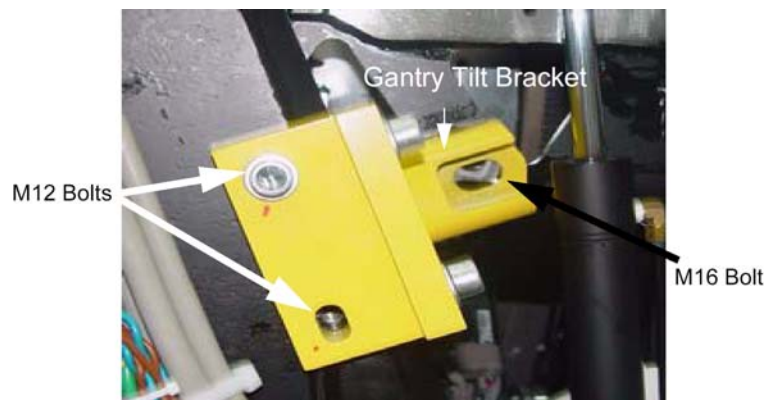

Figure 1-71 Gantry Tilt Bracket Removal
- 1.) Refer to Figure 1-71. Remove the M12 bolts using a 10 mm Hex wrench.